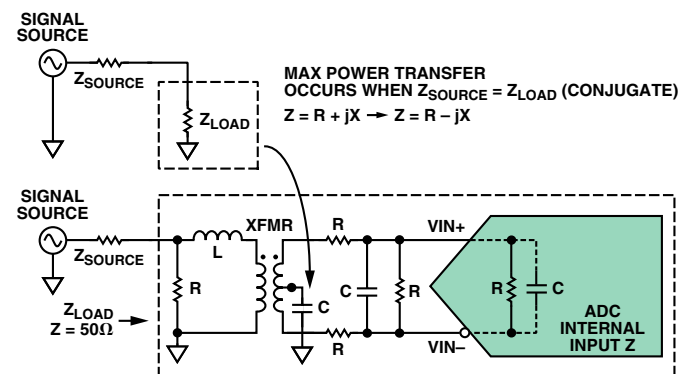

Figure 4. Maximum power transfer.
A. First, it is paramount that everything be taken into account when designing an ADC front end! Each component should be viewed as part of the load on the previous stage and maximum power transfer occurs when $Z_{SOURCE} = \text{conjugate } Z_{LOAD}$ (Figure 4).